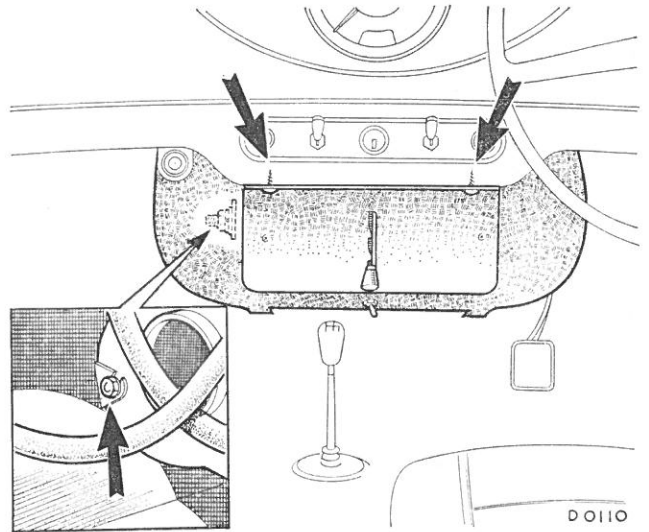

Fig. R.31
- (1) Disconnect the battery and drain the cooling system.
- (2) Remove the front floor covering to avoid damage by coolant when removing the heater pipes.
- (3) Disconnect the two electrical snap connectors below the parcel shelf and the blower switch connection from the ignition switch.
- (4) Remove the demister tube covers, pull off the demister tubes and release the fresh-air intake hose.
- (5) Release the heater water hose clips and pull the hoses from the heater unit.
- (6) Slacken the nut securing the rear of the unit to the bracket, and remove the two screws beneath the parcel shelf securing the front of the heater (Fig. R.31). Lift the unit from the slotted rear bracket, hold the fingers over the matrix pipes and lift the unit out of the car. Drain the coolant from the unit. ●